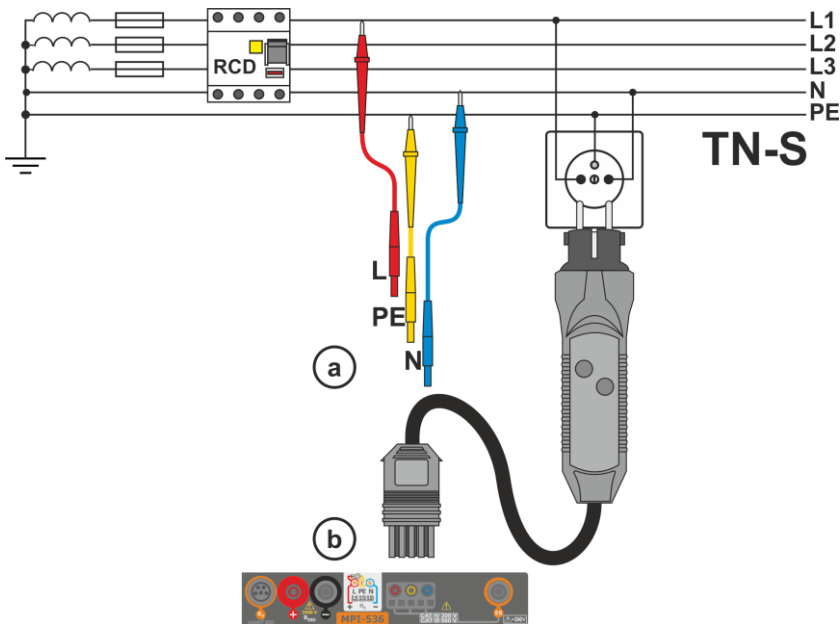
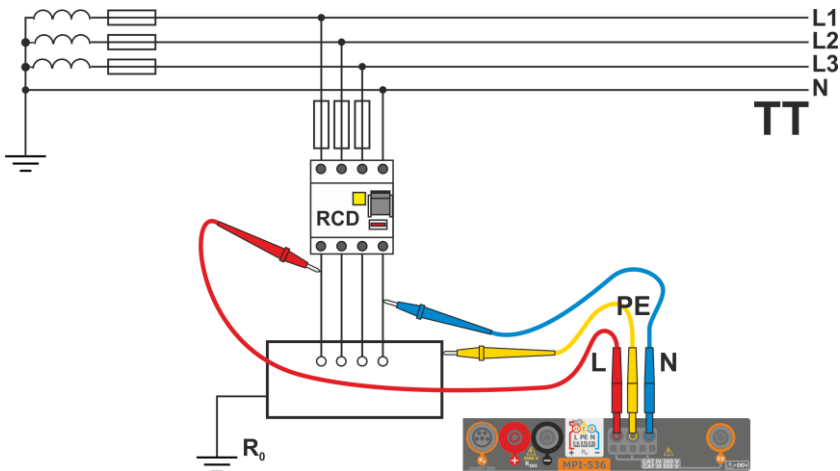

Fig. 4.3 Measurement in the TN-S system
Fig. 4.4 Measurement in the TT system
- 1 Connect test leads according to Fig. 4.3, Fig. 4.4 lub Fig. 4.5.